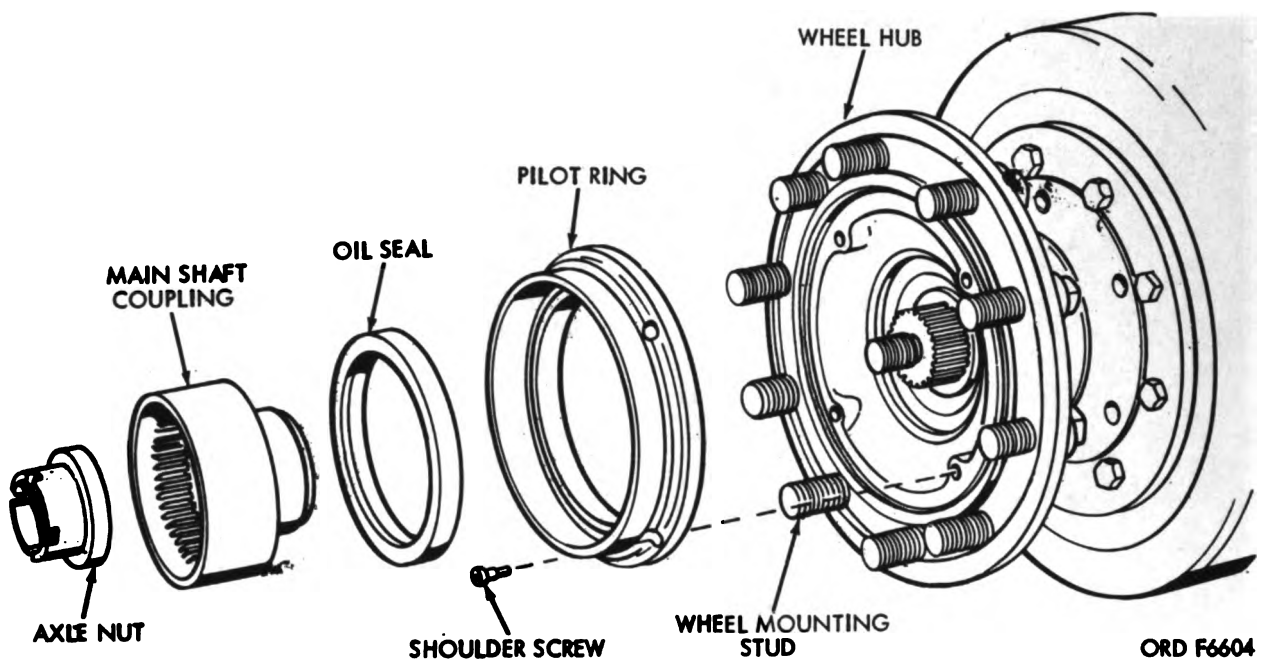

Figure 147. Removal or installation of wheel drive unit attaching parts (M12SA1 only).
c. On the M128A1 howitzer, remove the axle nut (fig. 147) from the wheel spindle. Remove four shoulder screws securing the pilot ring to the hub and remove the pilot ring main shaft coupling and oil seal.
*g.* On the M128A1 howitzer, install the pilot ring (fig. 147) in hub and secure with four shoulder screws. Install the oil seal in the pilot ring and slide the main shaft coupling through the oil seal and onto the splines on the wheel spindle.